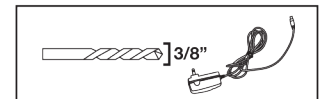

FIG. 13
**AC Adapter Wire:** To feed the AC adapter wire through a cabinet, use a 3/8" drill bit (not included.) (See FIG. 13)